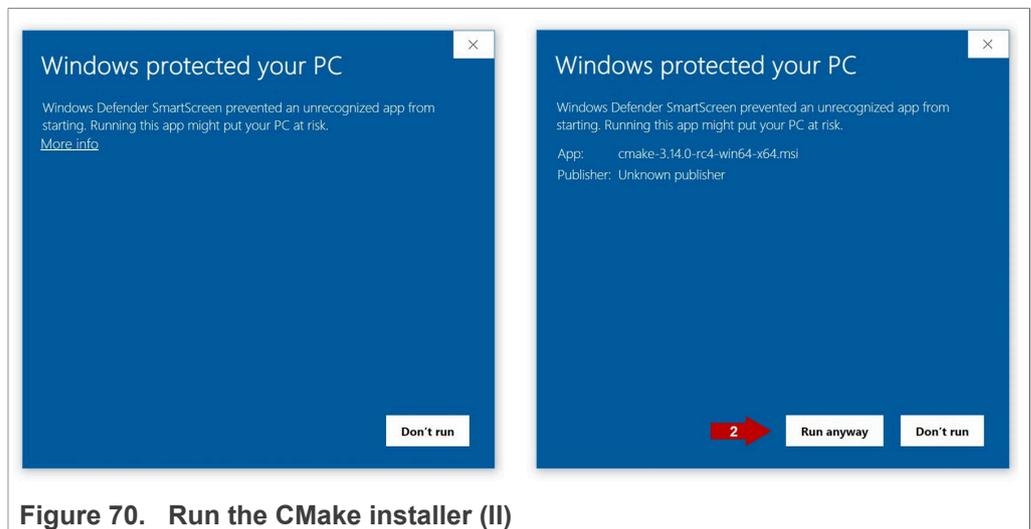

Figure 70. Run the CMake installer (II)
- If this is your case: Click (1) on **More info** and then (2) click on **Run anyway** as shown in Figure 70: